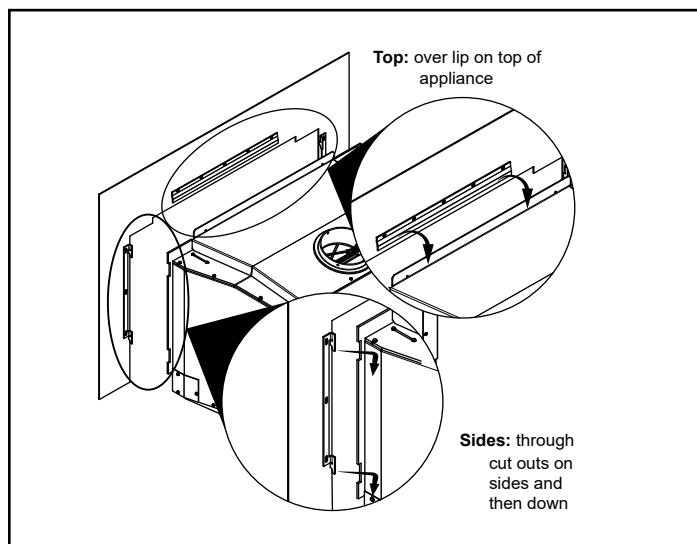

Figure 5.9
4. Lift surround on to front of appliance (Figure 5.9).
- 2. Lift surround assembly to front of appliance (**Figure 5.9 on page 19**).